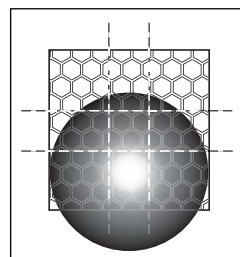

Fig 21
- Now turn the other thumbwheel and carry out the steps described in points 3 to 6. *Figs 21* and *22* correspondingly show the tilting movement.